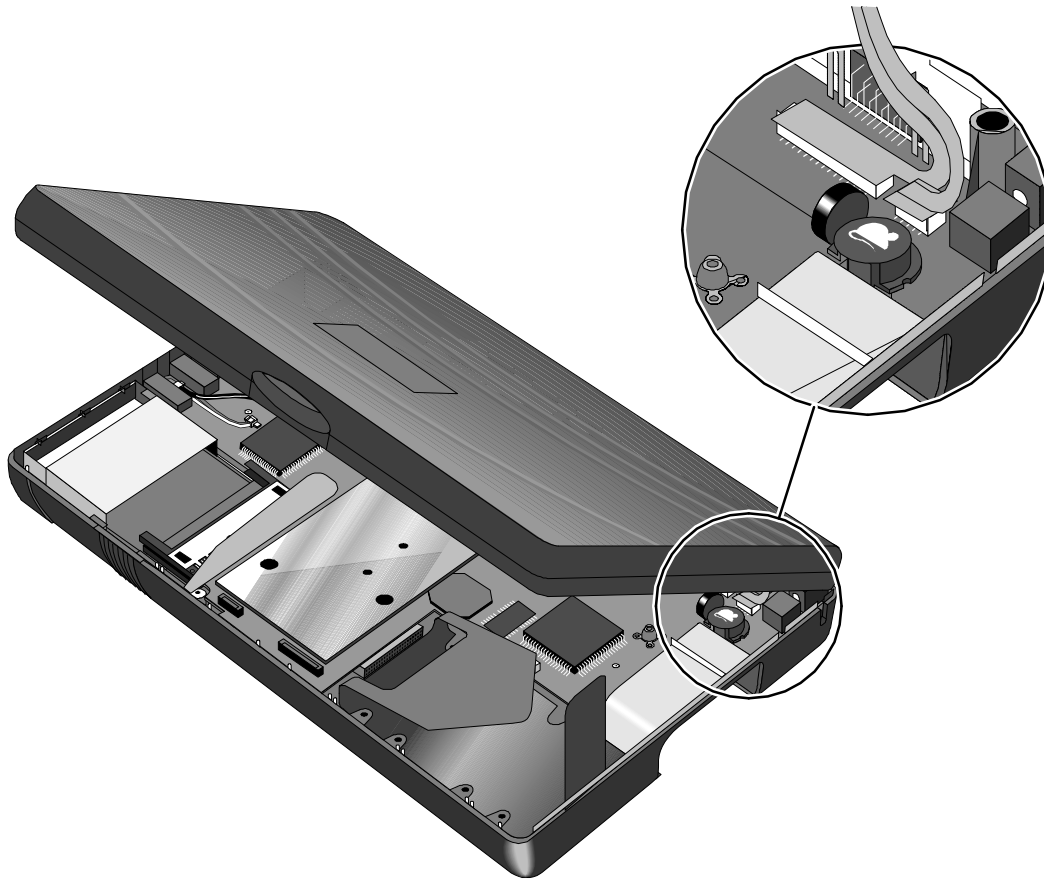
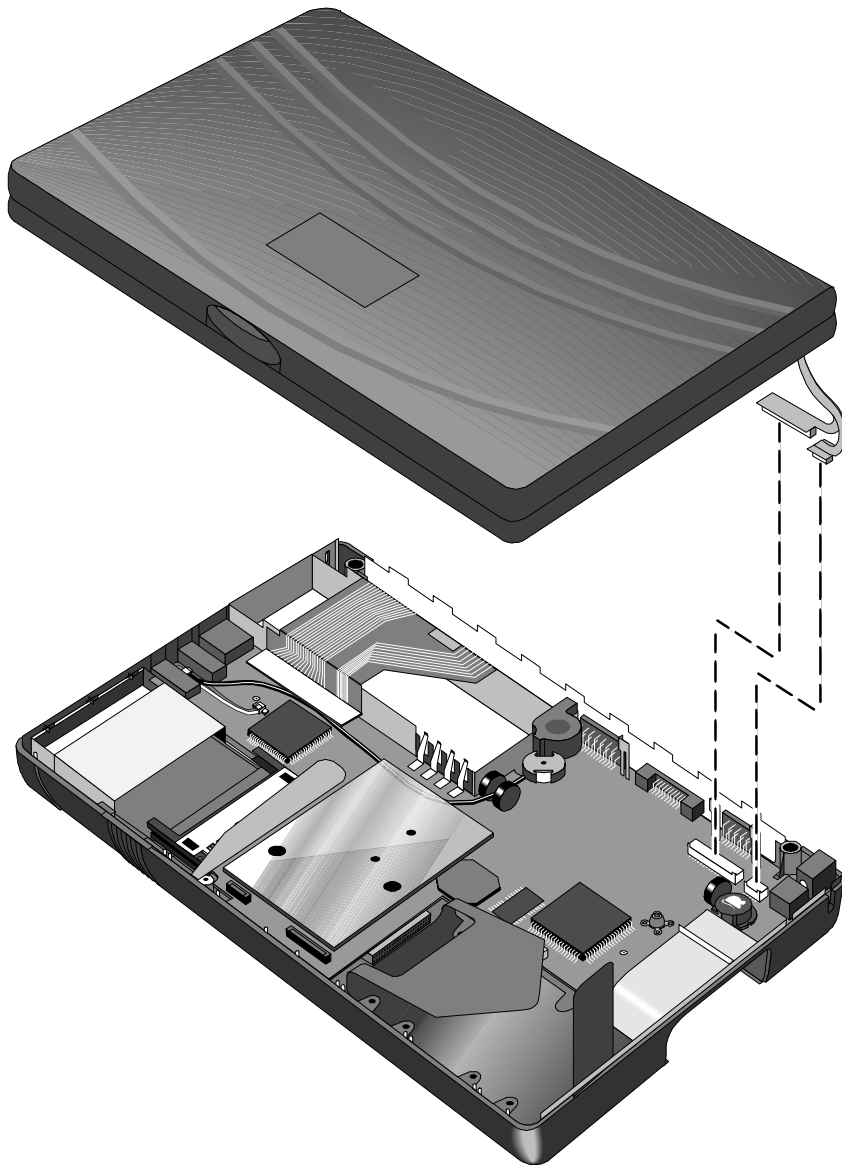

Figure 34 - Display Flex Cables
Figure 35 - Top Case and Display Removal
6. Close the cover and gently pry the Top Case and Display Assembly from the Bottom Case along the case seam. See Figure 34 on page 66 and Figure 35 on page 67. **Take caution of the Display Flex Cable(s) still connected to the Bottom Case, as it is the only component now holding the Top Case and Display Assembly to the Bottom Case; do not lay the Top Case and Display Assembly down at this point.**